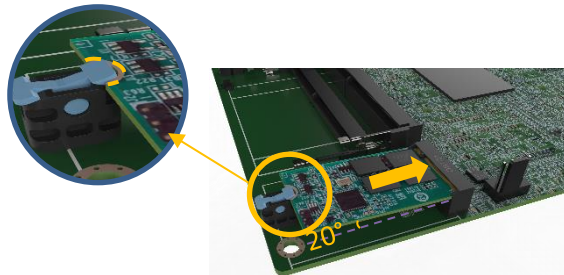

Figure 3-13: Securing the M.2 Module
Step 4: Press the M.2 module down until it is secured into place by the retainer. (See **Figure 3-13**)